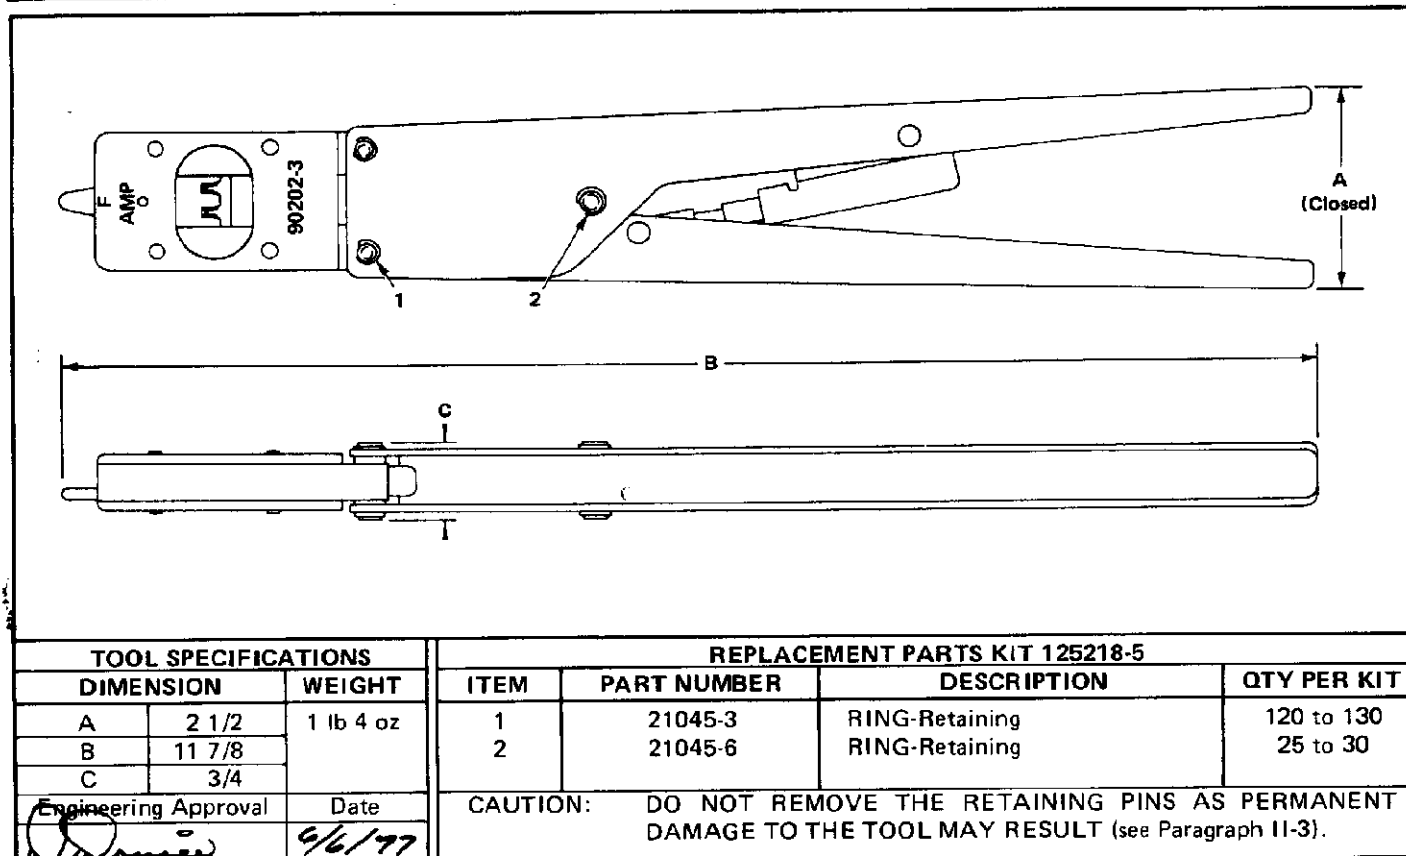

Fig. II-1
Customer replaceable parts are listed in Figure II-1. A complete inventory should be stocked and controlled to prevent lost time when replacement of parts is deemed necessary. When ordering, order the replacement parts kit listed in Figure II-1.
2. Make certain all retaining pins are in place and secured with retaining rings. If replacements are necessary, refer to parts listed in Figure II-1.
Parts other than those specified in Figure II-1 must be replaced by AMP to insure certification of the tool. When repair is necessary, return the tool with a written description of the problem to: